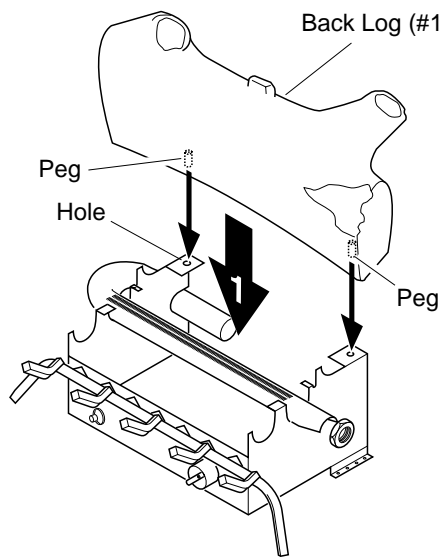

Figure 16 - Installing Back Log
1. Locate pegs on the bottom of back log (#1). Slide these pegs into the holes in the grate base behind the burner (see Figure 16).